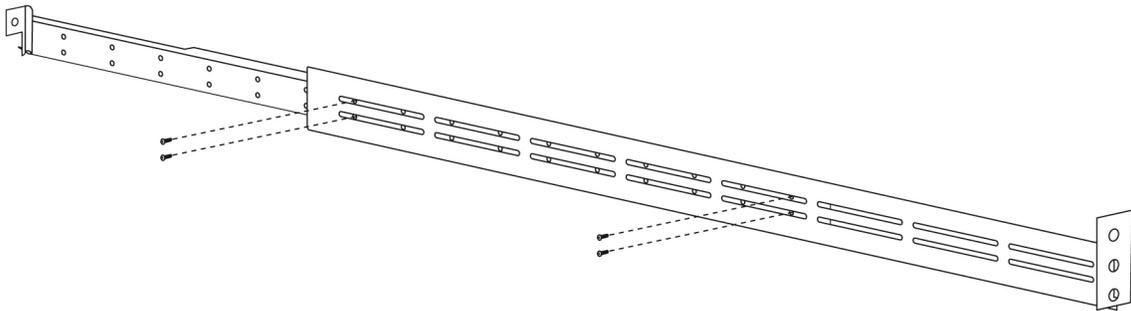

Figure 4. Screwing Side Rack Support Pieces Together
3. Hold the two pieces together and carefully remove the adjusted side supports while rotating the pieces so that the screws can be inserted as shown in Figure 4.
4. Insert screws (FBDB-0407DSC-A) in the holes (farthest ones on each end) as shown in Figure 4.